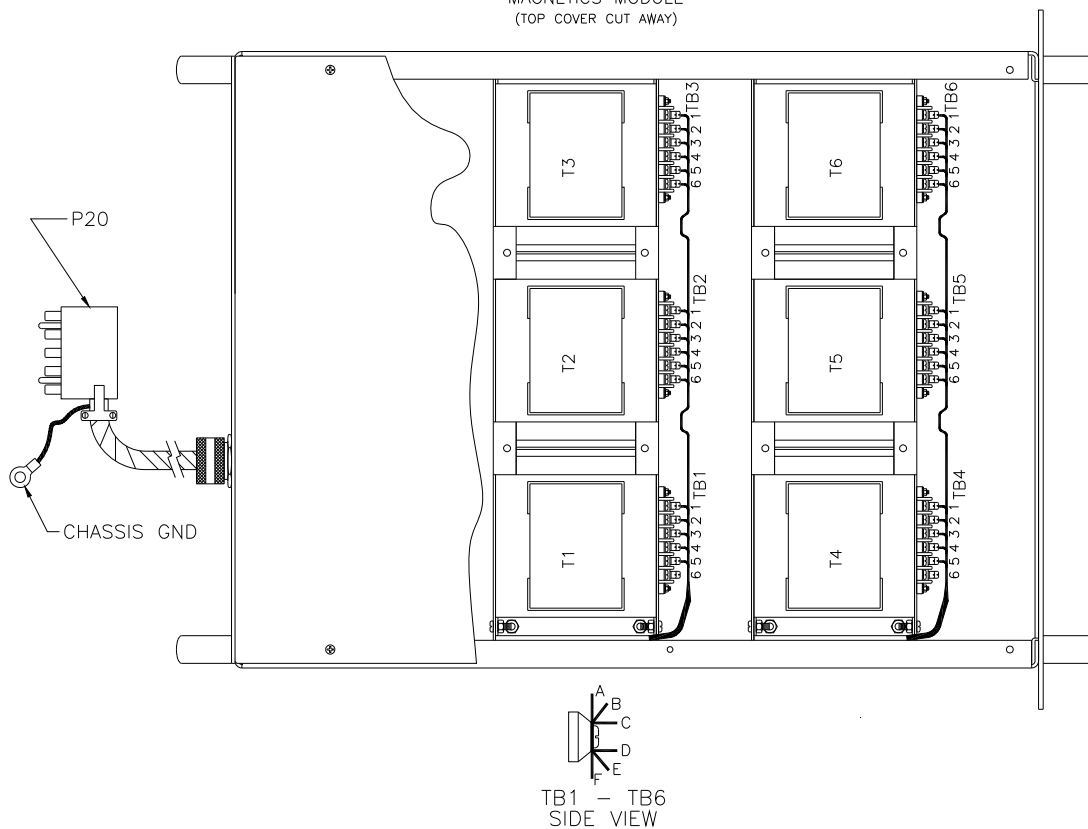

FIGURE 3.2.7 MODELS 140/160/320/345/360/390/3120-AMXT OUTPUT VOLTAGE CONFIGURATION
Refer to Figure 3.2.7 for location of components referenced below and range tap selection information.
- 2) Wire for (X.X):1 ratio as per wire table of Figure 3.2.7.